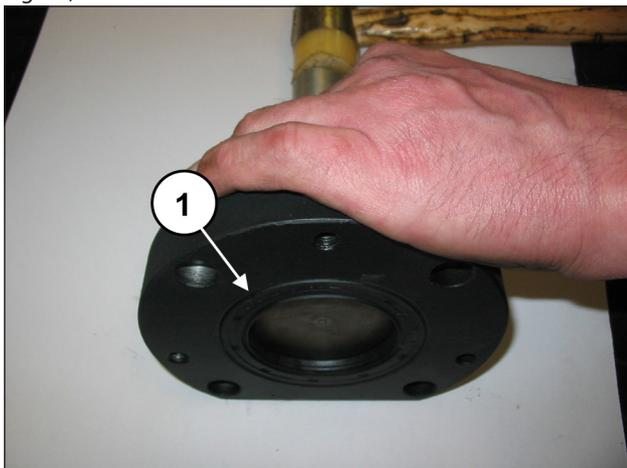

Fig. 29
Take out the radial seal ring (pos. ①, Fig. 29), the outside O-ring (pos. ①, Fig. 30) and the lubrication hole O-ring (pos. ①, Fig. 31).